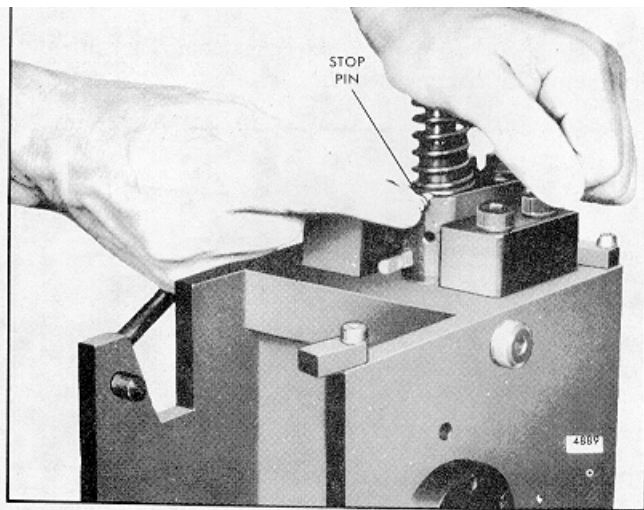

Fig. 41 Installing Injector Follower Stop Pin
3. Refer to Fig. 41 and place the stop pin on the injector body so that the follower spring rests on the narrow flange of the stop pin. Then align the slot in the follower with the stop pin hole in the injector body. Next align the flat side of the plunger with the slot in the follower. Then insert the free end of the plunger in the injector body. Press down on the follower and at the same time press the stop pin into position. When in place, the spring will hold the stop pin in position.